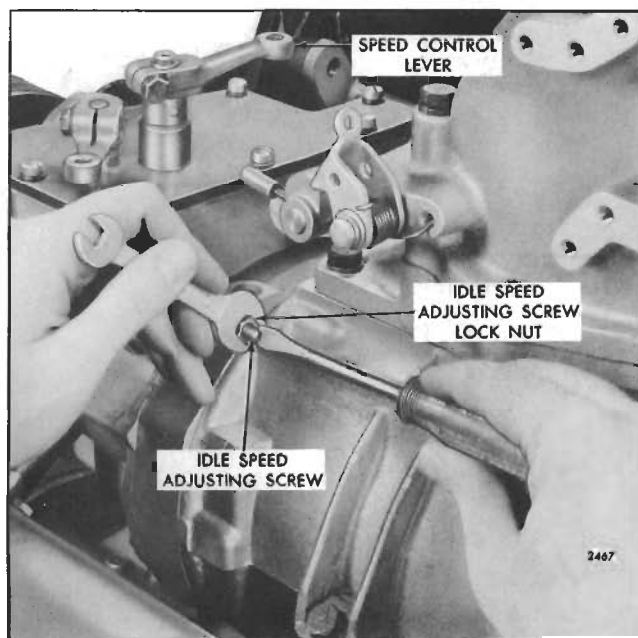

Fig. 7 - Adjusting Engine Idle Speed
1. With the engine running, at normal operating temperature and with the buffer screw backed out to avoid contact with the differential lever, turn the idle speed adjusting screw (Fig. 7) until the engine operates at approximately 15 rpm below the recommended idle speed.